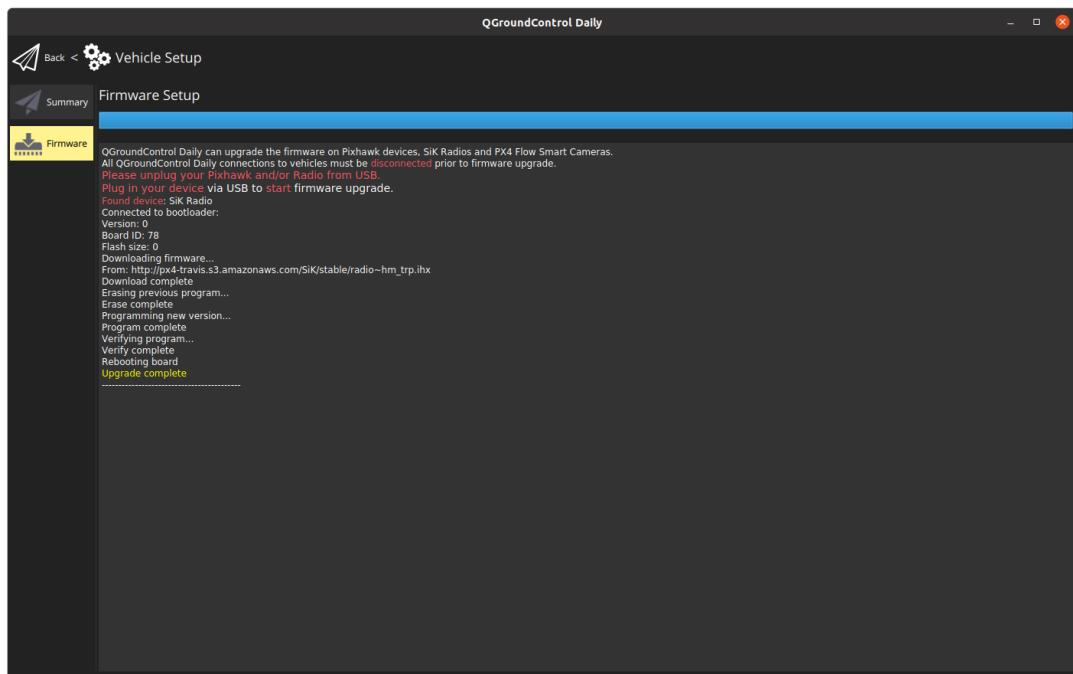

Figure 3.5: Firmware upgrade for telemetry.
6. You will need to connect the computer to each telemetry transmitter using the same USB cable and update the firmware as as shown in Fig. 3.5.